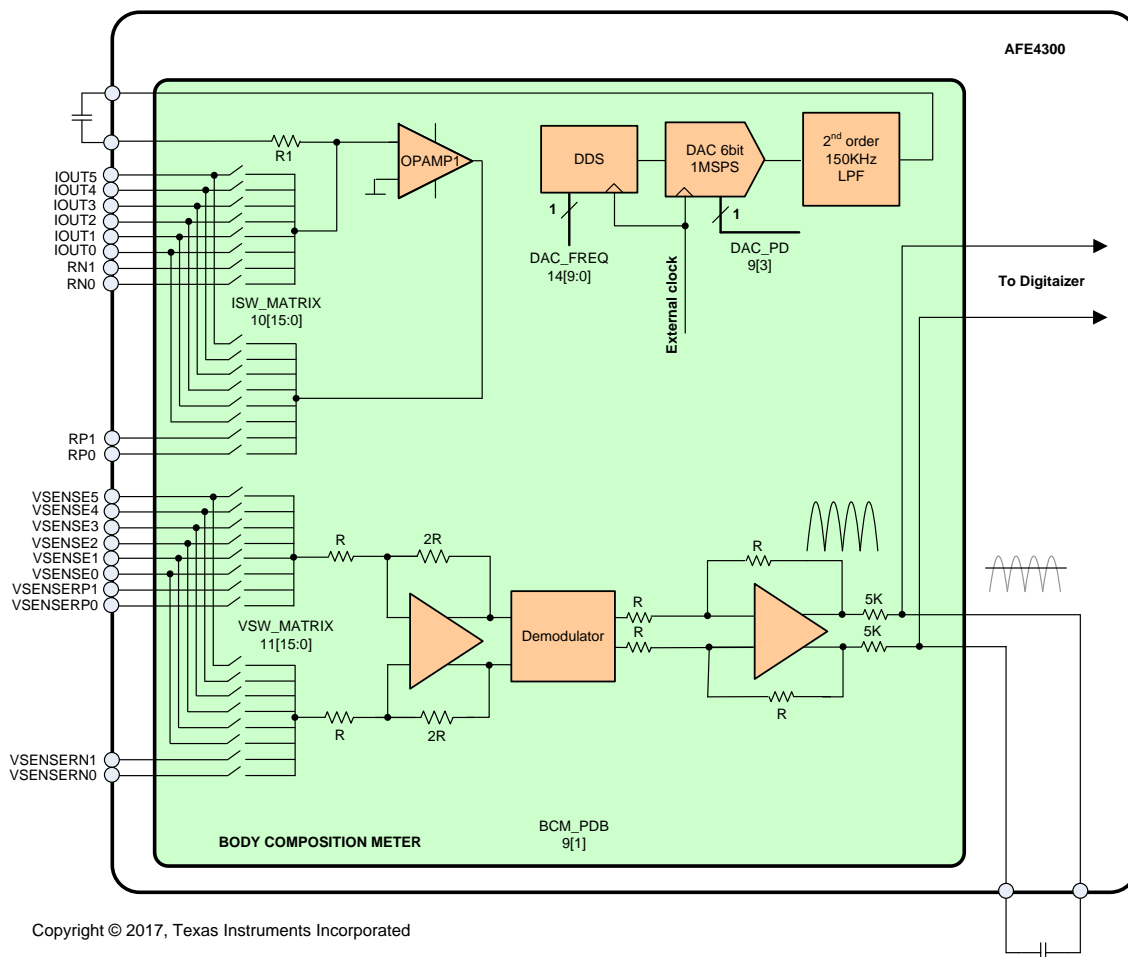
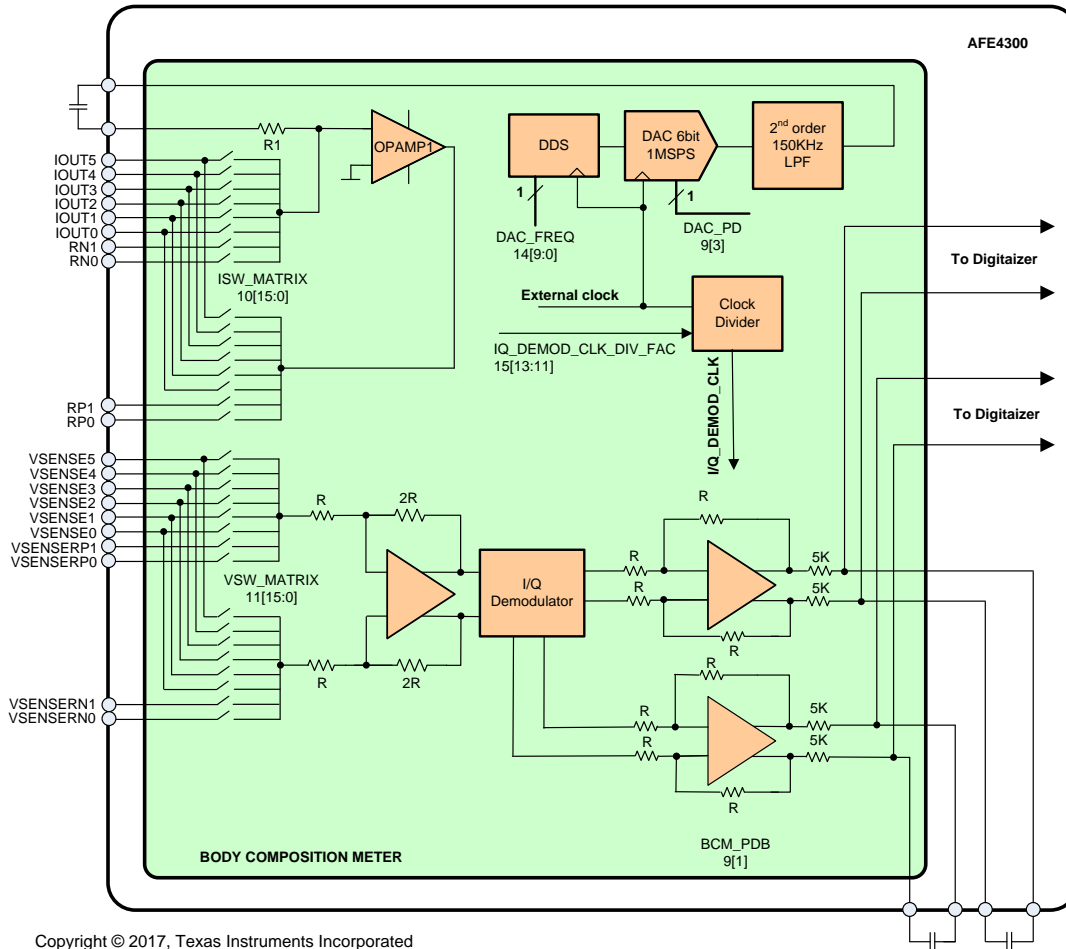

Figure 7. BCM in AC Rectifier Mode
Figure 8. BCM in I/Q Demodulator Mode
Figure 7 shows the portion of the AFE4300 devoted to body composition measurement in the RMS detector mode.
The top portion of Figure 7 represents the current-injection circuit. A direct digital synthesizer (DDS) generates a sinusoidal digital pattern with a frequency obtained by dividing a 1-MHz clock with a 10-bit counter. The digital pattern drives a 6-bit, 1-MSPS DAC. The output of the DAC is filtered by a 150-kHz, second-order filter to remove the high-frequency images, followed by a series external capacitor to block the dc current and avoid any dc current injection into the body. The output of the filter (after the dc blocking capacitor) drives a resistor setting the amplitude of the current to be injected in the body, as shown in Equation 5:
The AFE4300 includes a second circuit that with a single frequency measurement, obtains both the real and the imaginary portions, as shown in Figure 8. As explained previously, the portion of the circuit injecting the current into the body is the same for both configurations. Therefore, the circuit is the same in Figure 7 and Figure 8. The difference between them is that an I/Q demodulator is used in this second approach, as shown in Figure 8.
- (8)
The I/Q demodulator takes the v(t) signal and outputs two dc values. These two values are used to extract the impedance module and phase with a single frequency measurement. Figure 8 shows the block diagram of the implementation. Using the I/Q demodulator helps reduce power consumption and still yields excellent performance. The local oscillator (LO) signals for the mixers are generated from the same clock driving the DDS/DAC and are of the same phase and frequency as the sinusoidal i(t) (see Equation 5). The LO signals directly control the switches on the in-phase (I) path, and after a delay of 90° degrees, control the switches on the quadrature (Q) path. This switching results in multiplying the v(t) signal by a square signal swinging from -1 to 1.